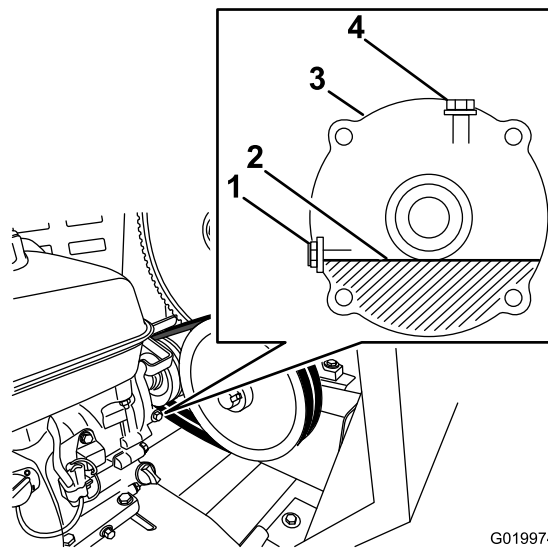

Figure 64
2. Locate the reduction case between the engine and the engine pulley (Figure 64).
4. Remove the oil-level-check bolt and washer from the oil-level port (Figure 64).
- A. Remove the filler bolt and washer from the filler port on the top of the reduction case (Figure 64).
- C. Install the filler bolt and the washer to the filler port of the reduction case, and tighten the filler bolt (Figure 64).
5. When the oil is level is flush with the threads at the bottom of the oil-level port, install the oil-level-check bolt and the washer to the port and tighten the oil-level-check bolt (Figure 64).
8. Slowly add the specified oil into the fill port until the oil level is level with the threads at the bottom of the oil-level port (Figure 64).